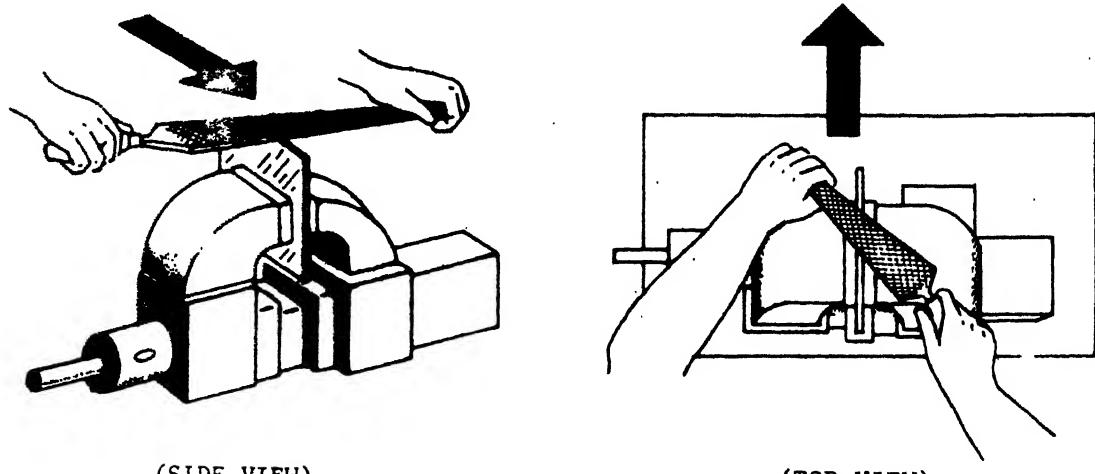

FIGURE 1
***(1) The file cuts as you push; LIFT UP ON RETURN stroke.**
***(2) DO NOT remove corners at this time. See figure 1.**